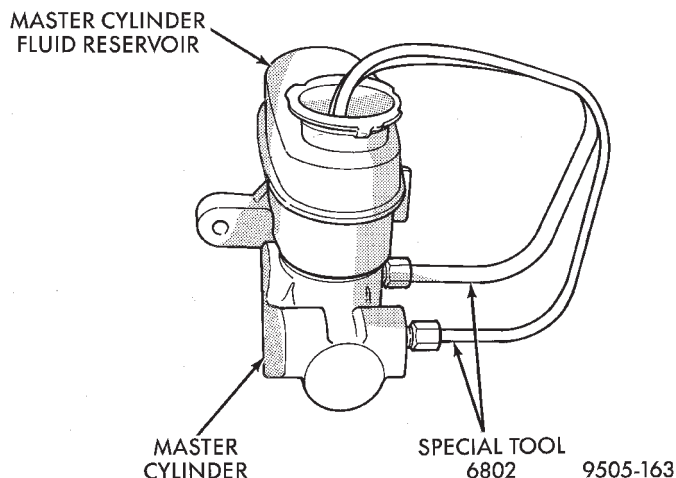
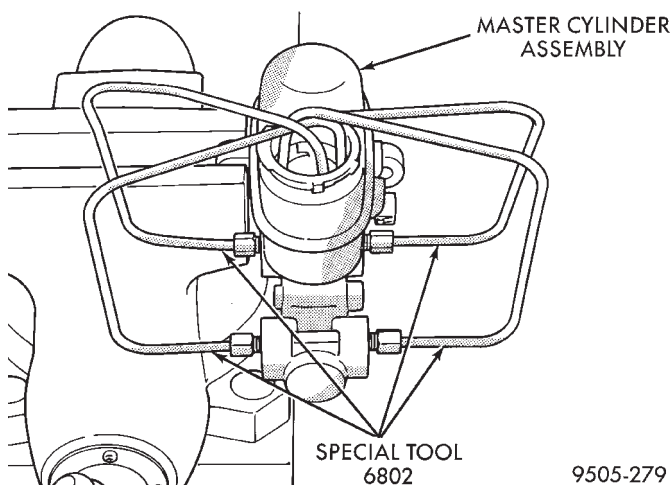

Fig. 88 Bleeding Tubes Attached to MasterCylinder With ABS
Fig. 89 Bleeding Tubes Attached to MasterCylinder With Out ABS
(1) Clamp the master cylinder in a vise. Attach Bleeding Tubes, Special Tool 6802 to the master cylinder outlet ports (Fig. 88) or (Fig. 89). Position tubes so outlets of Bleeding Tubes will be below surface of brake fluid when reservoir is filled to proper level.
(3) Connect brake tubes to master cylinder primary and secondary ports (Fig. 88) or (Fig. 89). Then tighten the tube nuts to a torque of 17 N·m (145 in. lbs.).